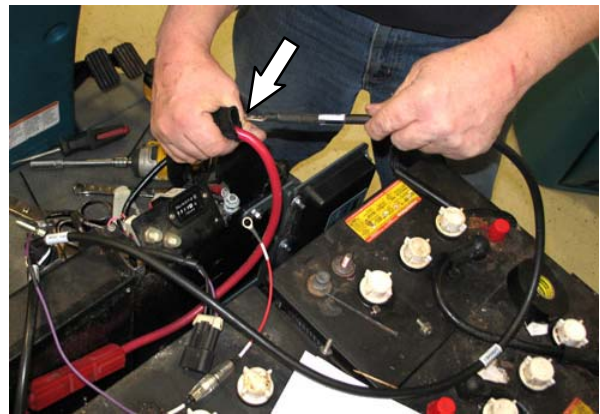
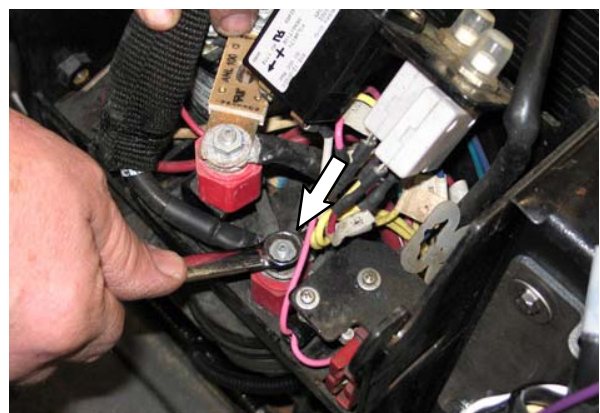

Fig. 25
Fig. 26
20. Route the 40 in. cable (18) from telemetry shunt in front of the batteries, through the nylon braiding (Fig. 25) and connect cable to the negative stand off (Fig. 26). Make sure terminal nut is tightened.